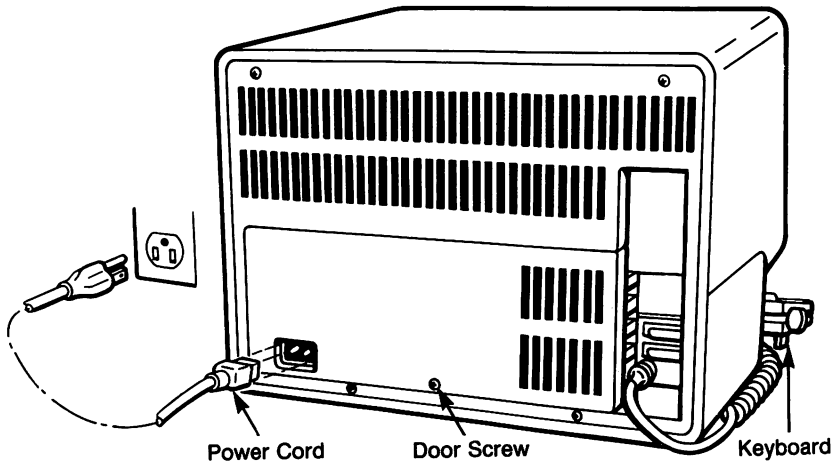

Figure 4-1 Access door removal
1. Remove the door screw shown in Figure 4-1.